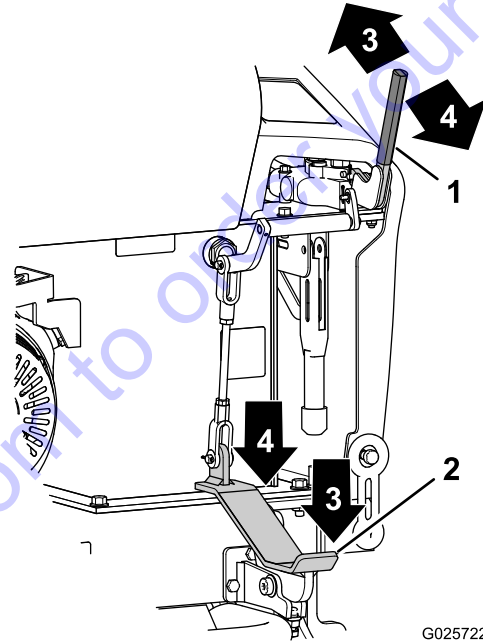

Figure 6
2. Dump the hopper by pushing forward the dump handle or pressing down on the forward part of the dump pedal (Figure 6).
3. Move the hopper to the upright position by pulling back the dump handle or pressing down on the rear part of the dump pedal (Figure 6).